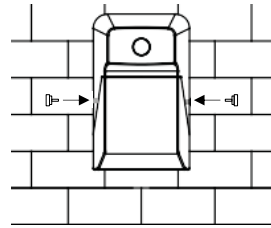

Figure 6
7. Reattach the luminaire to the mounting bracket using the two thumbscrews (see Figure 6).
10. Reattach the luminaire to the mounting bracket using the two thumbscrews (see Figure 6).